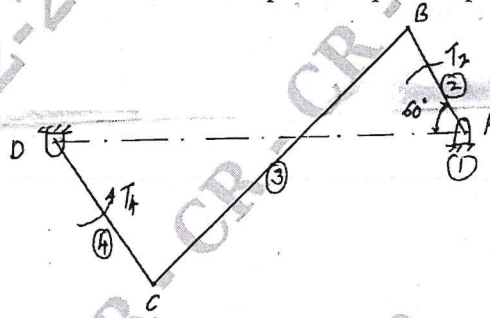

Fig Q1(b)
b. In a 4 bar link mechanism shown in Fig Q1(b) the link 4 subjected to a torque $T_4 = 20\text{N-m}$. The link length are $AD = 800\text{mm}$, $AB = 300\text{mm}$, $BC = 700\text{mm}$ and $CD = 400\text{mm}$. For static equilibrium of the mechanism determine the required input torque T_2 and link 2.